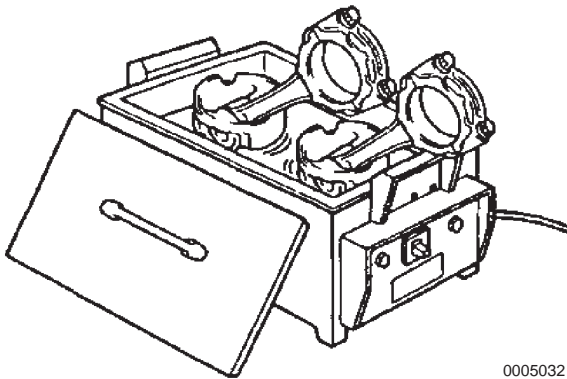

Figure 5-109
5. Slowly heat the piston to about 80°C (176°F) (**Figure 5-109**).